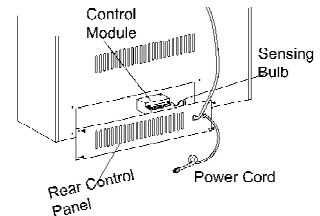
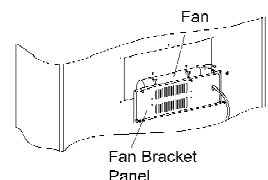
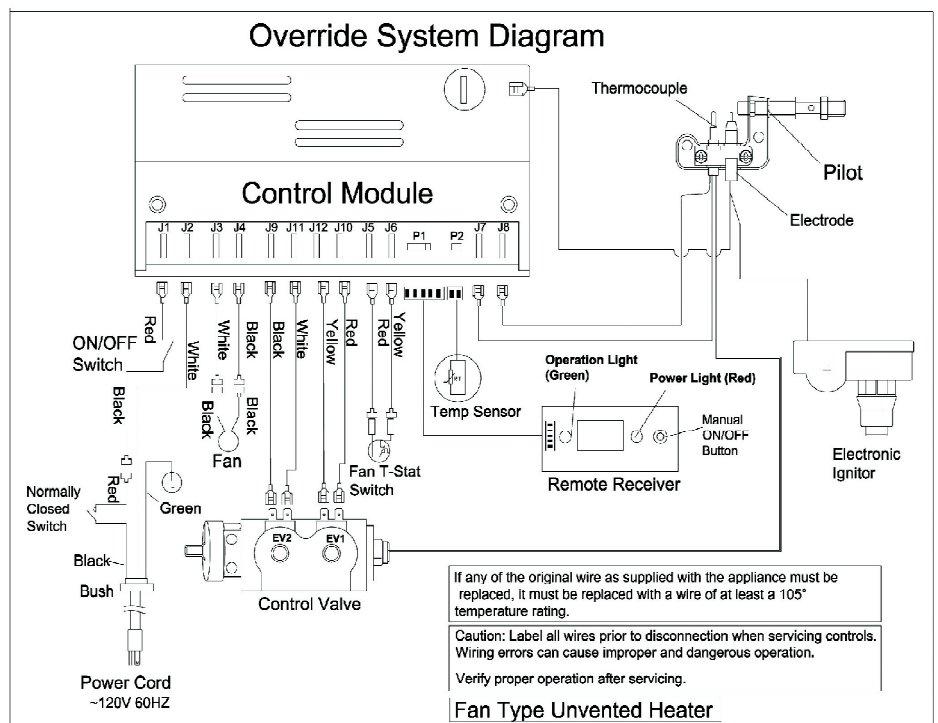

Figure 22 - Control Model
Figure 23- Fan
Figure 25 - Override Control System Diagram
2. Remove two screws and hex nuts, take out the control module. When installing, reverse the steps above. (See Figure 22 and Figure 25)
2. Mark or tag each wire removed for its exact reconnection. Remove the four screws from the fan. When installing, reverse the steps above. (See Figure 23 and Figure 25)